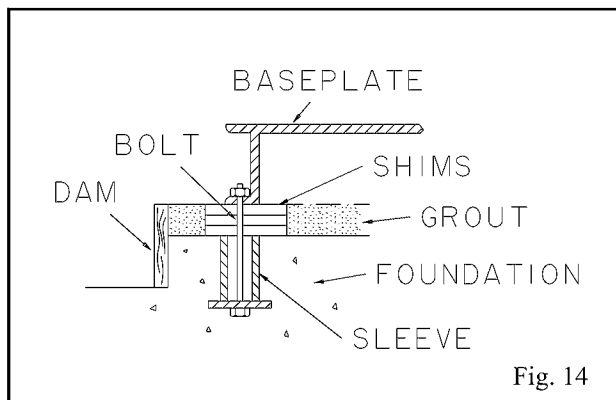

Fig. 14
2. Build dam around foundation. Thoroughly wet foundation (Fig. 14).